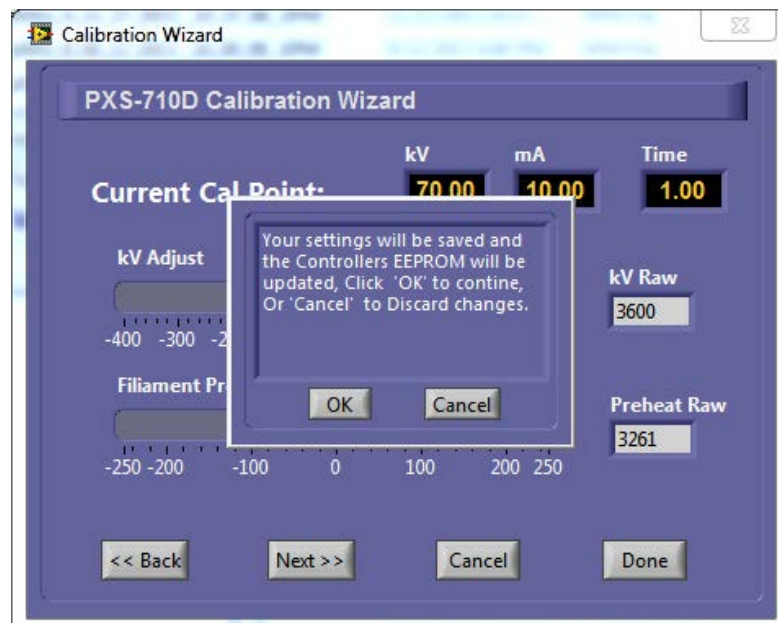

Figure 2.7
- m. Once the 70 kVp station is calibrated, pressing "**NEXT**" results in a confirmation dialog as in fig 2.7. Click on the '**OK**' button to proceed.